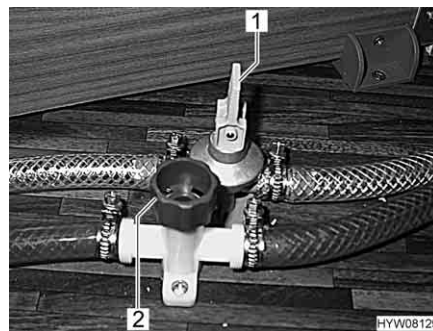

Fig. 128 Drain cocks
- Close all boiler drain cocks. To do this, position the rocking lever (Fig. 128,1) horizontally or turn the cap (Fig. 128,2) in a clockwise direction.
- Open all boiler drain cocks. To do this, position the rocking lever (Fig. 128,1) vertically or turn the cap (Fig. 128,2) in an anticlockwise direction.